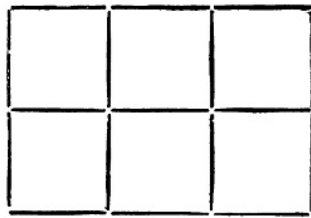

Fig. 3.
(4) *The Six Squares Puzzle*.—Take seventeen pieces of stick three inches long and arrange them as in Fig. 3. The puzzle is, by taking away five sticks, to leave three perfect squares, and three only, these three squares to be three of those originally formed, and all the same size. To do this take the two sticks from the two top corners and the middle stick at the bottom.